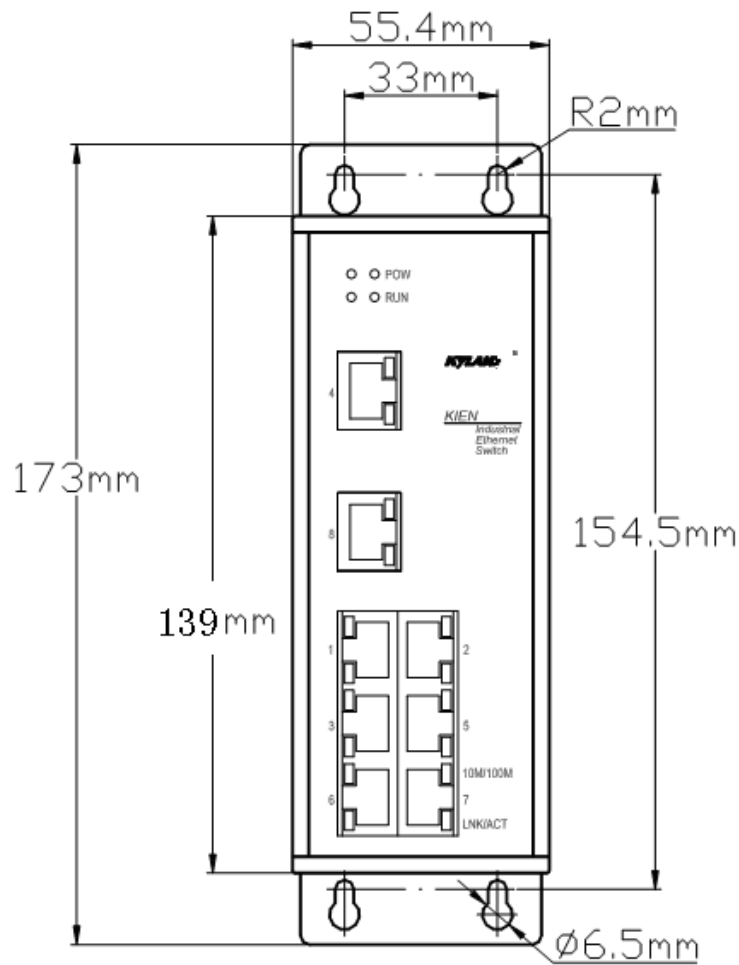

Figure 2-3 KIEN1000, KIEN2000 Wall Mounting
In the situation that DIN rail-type mounting is inconvenient, it is better to adopt wall mounting. KYLAND provides users with wall mounting boards that are mounting parts for mounting of KIENT1000 and KIENT2000. The size of wall mounting is shown in the Figure2-3.
3. Select a vertical wall or internal wall of the switch cabinet as the mounting position. If the vertical wall is selected, it is recommended to mount the switch with $\Phi 6$ plastic expansion bolts and $\Phi 3$ tapping screws. According to the mounting size in the Figure 2-3, drill 4 $\Phi 6$ holes on the wall with a impact electric drill with a depth that can completely contains the $\Phi 6$ plastic expansion bolts. Insert the plastic expansion bolts into holes on the wall and screw the tapping screws into the plastic expansion bolts with a cross head screwdriver. But do not screw them tightly and keep a space of about 5mm. If the internal wall of the switch cabinet is selected, recommend to open 4 M3 screw holes when the switch cabinet is manufactured in accordance with the mounting size in the Figure 2-3. Or drill 4 $\Phi 4$ holes with a electric portable drill on site. Screw four M3 \times 10 cross recessed pan head screws into 4 holes. If the holes have no threads, mount four M3 nuts on its back. At last, do not completely screw down screws and keep a space of 5mm.